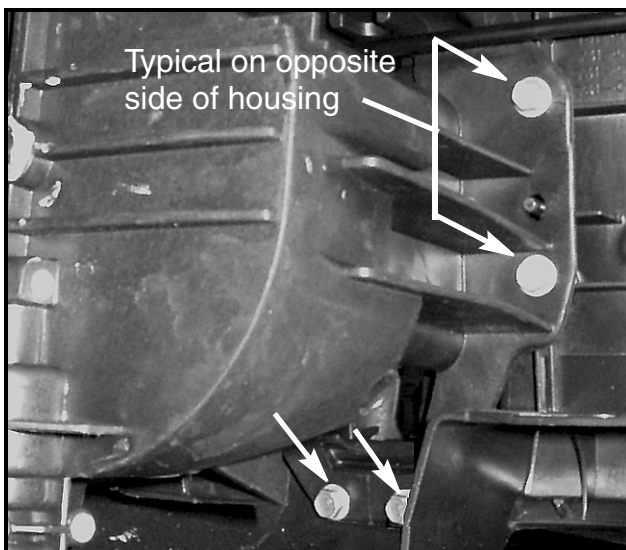

FIGURE 6
8. Using a 3/8" socket, long extension and ratchet, remove the six (6) Hi-Lo screws, from the underside of the handle panel, securing the chute control assembly to the handle panel. See Figure 6.